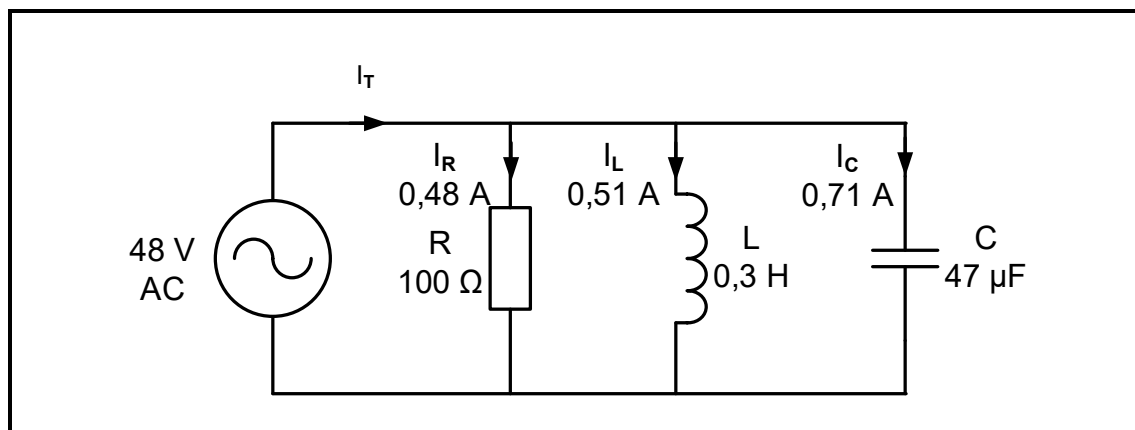

FIGURE 3.4: PARALLEL CIRCUIT
3.4 Refer to FIGURE 3.4 below and answer the questions that follow.